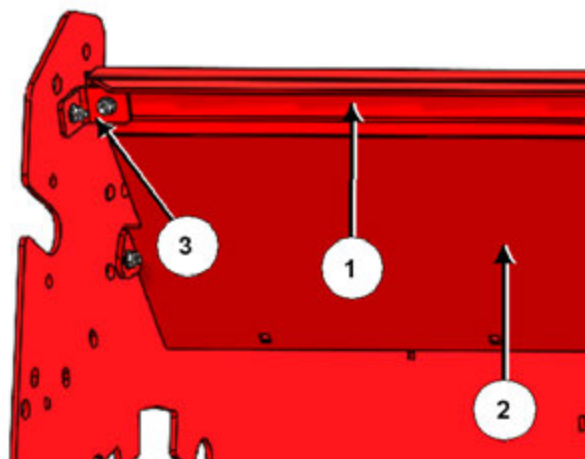

Figure 25: Re-install crossbar
- b. Replace the deflector brace/crossbar (1) by fastening it to the top flail deflector (2) using tub mounts (3), $\frac{3}{8}$ " x 1- $\frac{1}{4}$ " carriage bolts and flange lock nuts; see *Figure 25*.
- c. Fasten the tub mounts (3) to the tub walls using $\frac{3}{8}$ " x 1" carriage bolts and flange lock nuts; see *Figure 25*.